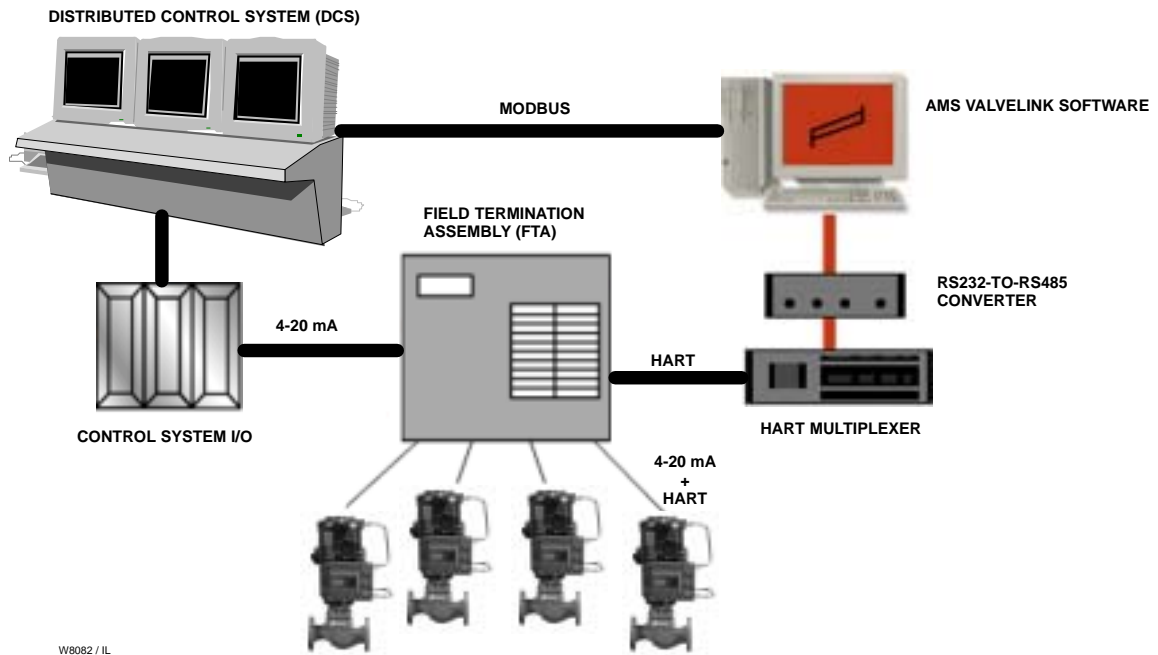

Figure 6. Integrate Information from the Digital Valve Controller into a Non-HART® Compatible Control System With AMS ValveLink® Software’s Modbus Interface
- **Modbus with AMS ValveLink® Software and HART® Multiplexers**—HART communication allows you to extract more value from DVC6000 Series digital valve controllers beyond their inherent improved performance. When integrated into a multiplexer network and using AMS ValveLink Software, the device and valve information is real-time. From the safety of a control room, multiple instruments can be monitored for alerts and alarms. Additionally, tasks such as configuration, calibration and diagnostic testing do not require special trips to the field. AMS ValveLink Software can communicate via Modbus to the distributed control system (DCS) to provide critical information such as valve travel alerts and alarms (figure 6).